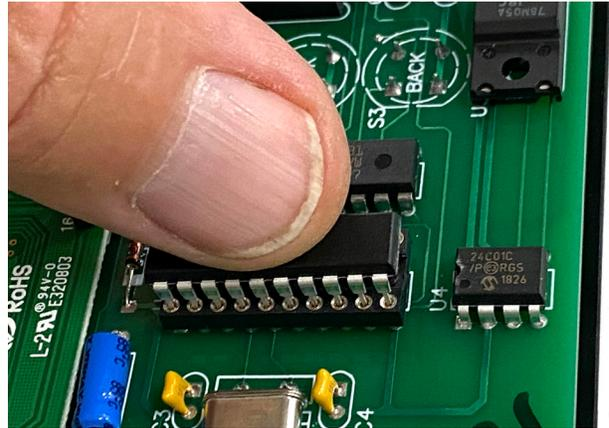

FIGURE 10
- With the chip pins aligned to the mating holes, gently push down on the chip. First push in the middle of the chip. Then push on each end of the chip until the chip is fully seated on the board connector (see Figure 10).